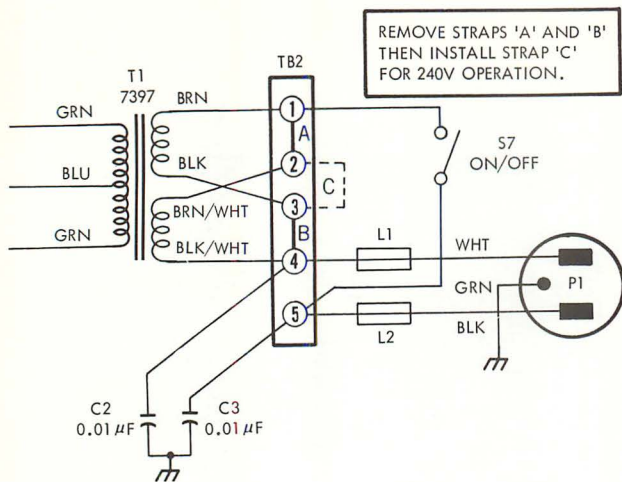

Figure 4. Converting to 240V ac, 50/60 Hz Operation
- Step 3. Remove strap "A" connecting terminals 1 and 2, and remove strap "B" connecting terminals 3 and 4. Solder strap "C" to terminals 2 and 3 (see Figure 4).